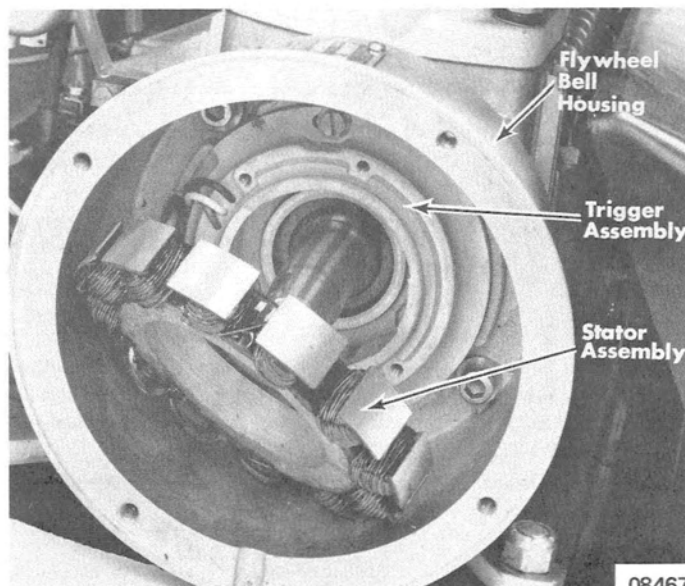

Figure 1. Removing Stator and Trigger Assemblies
6. Remove stator assembly and trigger assembly attaching bolts. (Figure 1)
4. Place trigger assembly in position on flywheel bell housing and secure with attaching bolts. (Figure 1)
6. After timing engine, install stator assembly. (Figure 1)